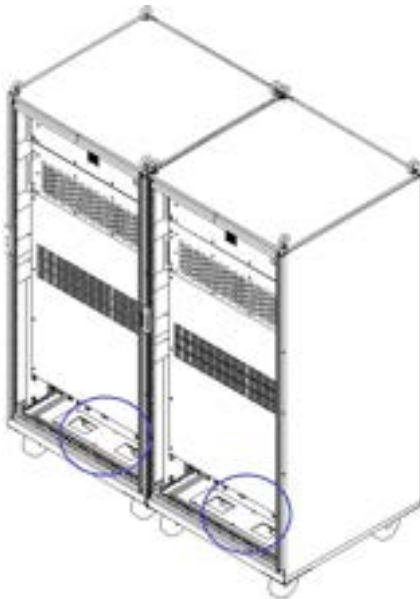

Figure 2-12 Threading holes at the bottom of the cabinet
Step 3: Insert the parallel input and output cables through the threading holes at the bottom of the cabinet, as shown in Figure 2-12.